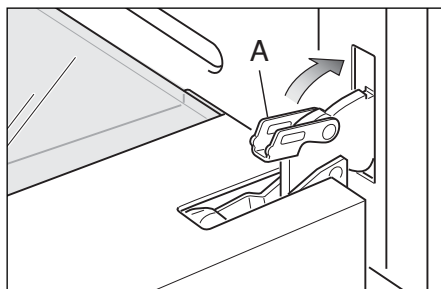

Fig.24d
- 4 Unlock the oven door by opening it completely and closing the lever "A" on the left and right hinges (Fig. 24d).